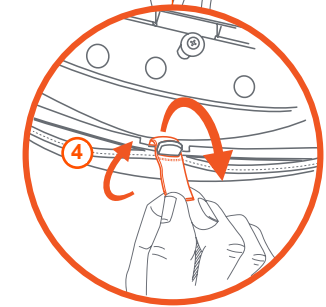

Fig. 5d
(4) Pull back each strap to the catch the hole into each pertaining tray tab (Fig. 5d).